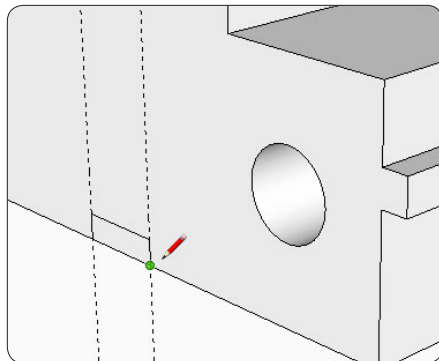

Figure 17. Drawing along the guides to create the profile of the dado.
Step 14 Select the Line Tool and use it to draw the shape of the dado on the front face. You will draw over the guide lines. The first line can be vertical, beginning at the bottom edge and moving up $\frac{3}{8}$ in. Start the line upward on the blue axis, type $\frac{3}{8}$, and press the Enter key. Continue a line from right to left along the red axis over to the other guide line, then down to the bottom edge (Figure 17). Delete the guide lines.